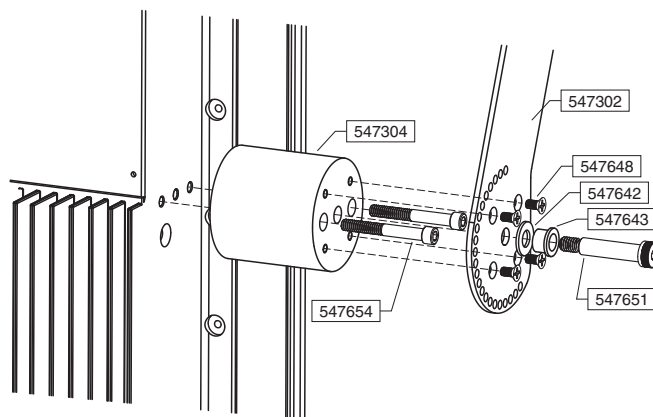

Figure 4.3 Yoke mounting adapter assembly
1. Attach adapter blocks (2x #547304) to the side of the XT using two socket cap screws (4x #547654) for each block. Apply Loctite 243 (#547659) to threads prior to engagement. Insert into the two outer through holes and the outer two threaded holes on the side of the XT. Using a 3/16" hex socket, tighten each to 36in-lb. NOTE: Orient the right side block to ensure the pockets are aligned to the XT side cover screws to allow proper fit. See Figure 4.3.